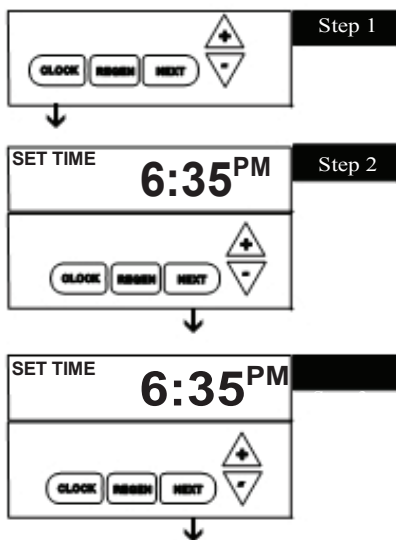

Figure 9
5. Set the time of day by pushing clock button (figure 9, page 8) and using \square and \square buttons.